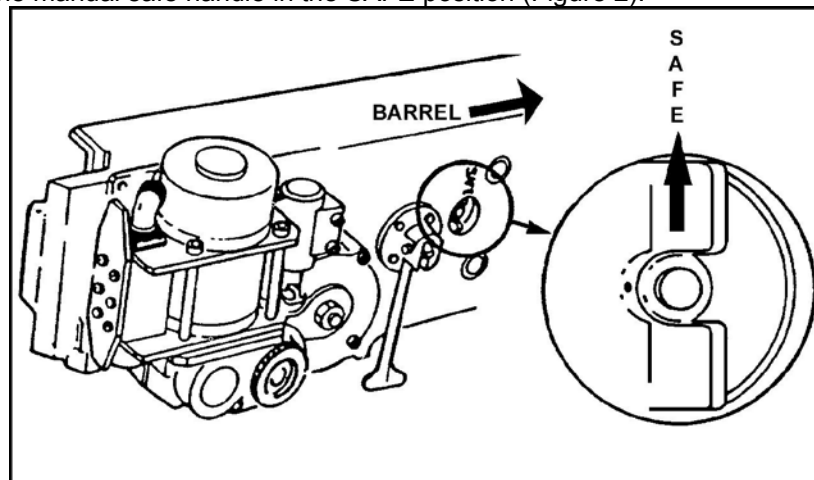

Figure 2. Manual safe handle in the SAFE position.
d. Place the manual safe handle in the SAFE position (Figure 2).